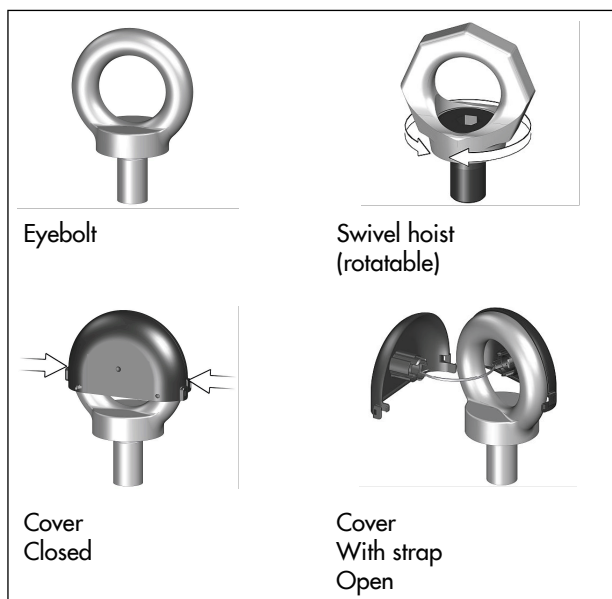

Fig. 13: Strap on eyebolt/swivel hoist
1. Open the eyebolt cover by lightly pressing the side clips and remove it (see Fig. 13).
6. Remove slings after mounting and replace the cover on the eyebolt (see Fig. 13).